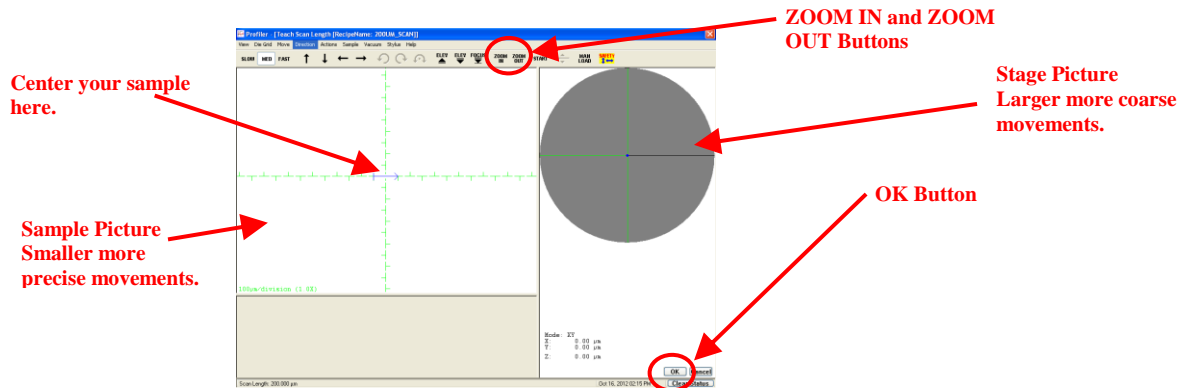

Fig. 4.2.7
4.2.8 You can use the "ZOOM IN" and "ZOOM OUT" buttons at the top to be more precise in your location. See Figure 4.2.7 above This only works on the left side sample view.